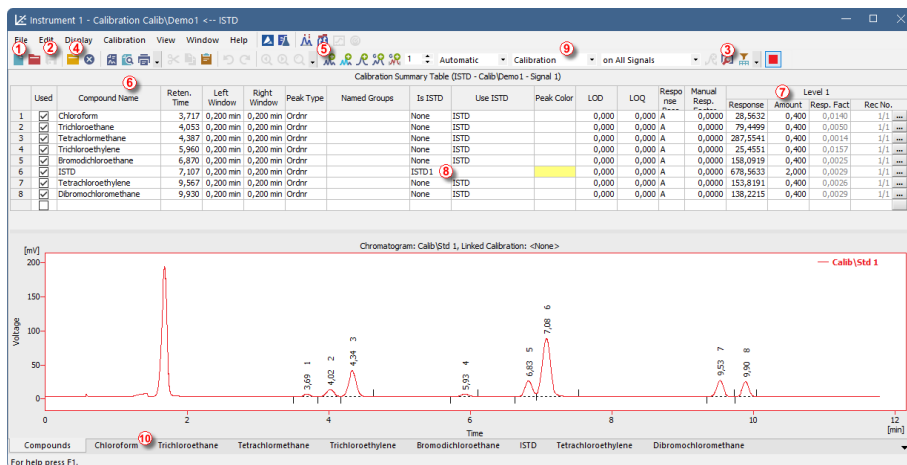

Fig. 13: The Calibration window - loaded standard
- Clicking on a cell in the **Result table** ① will color the peak (or peaks when selecting multiple cells) corresponding to the row(s) you just selected.
- Only one detector signal can be active at a time. The active signal can be identified in three ways: first, in the legend section at the upper right corner of the graph ②, where the active signal is displayed in bold text; second, in the
*Overlay* toolbar ③, where it is marked with a debossed icon ; and finally, by noting the color of the graph outline and table headers. Try to change the active signal by double clicking on its name in the legend section. You will notice that the **Result table** has changed.
- You can change the integration of peaks using the interactive icons on the toolbars on the left side of the *Chromatogram* window ④ or directly in the *Integration* tab ⑤. Any changes made either way will change the **Integration table** and can be copied to the template method.
- To add color to a peak permanently, click the *View* button ⑥ in the right side of the **Results** tab. This will get you to the linked calibration file. There, in the *Calibration Summary Table*, find the *Peak Color* column (see **Fig. 13** on pg. 21.). In the row corresponding to the peak to be colored, select the desired color by clicking in the field and selecting the  icon. Pick the desired color and click *OK*. You will be asked to save the changes upon closing the *Calibration* window. Return to the *Chromatogram* window by using the  icon in the menu bar. The selected peak is now colored according to the color selected in the *Calibration* window.
- Use the *Open Standard*  icon (yellow) ④ to open the STD 1.PRM data file. The lower part of the *Calibration* window now displays the chromatogram of the calibration standard.
- Use the *Add All*  icon (blue) ⑤ to move all identified peaks to the Calibration Summary Table. The Table appears in the *Calibration* window, ready to be completed as shown on **Fig. 13** on pg. 21.
- As demonstrated in the Calibration Summary Table and the Chromatogram, individual peaks are now identified according to their retention times only. To label the peaks, click and edit the fields in the *Compound Name* column ⑥ to the names shown on **Fig. 13** on pg. 21. You may also set the color of a specific peak in the *Peak Color* column, for example, try to set the ISTD peak color to yellow. Note that the changes made will not immediately affect the current chromatogram.
- Fill the *Amount* column ⑦ with the concentration of the particular compounds. In this standard mixture, all compounds except for the peak number 6 (ISTD) have the amount of 0.4.
- Peak number 6 is marked as the ISTD peak. In the *Is ISTD* column change its type to ISTD1 ⑧ and then set its amount in the *Amount* column to 2.